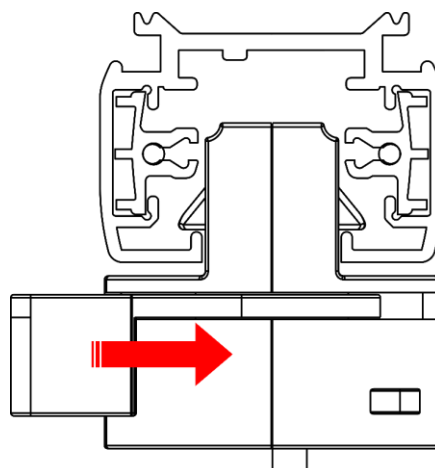

Fig. 08
- 03) Insert the **track adapter (01)** into the track and push it until it snaps into place.
- 04) Move the **track lock (06)** to lock the device in the track, as shown in Fig. 08.